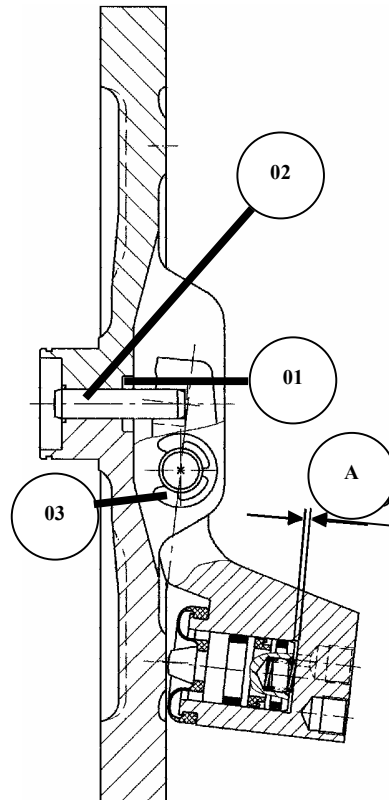

Figure 66
- Put the sealing ring (Item 01) into the bore. (See Figure 66)
- Install the pressure pin (Item 02) into the bore provided. (See Figure 66)
- For this purpose position the feeler of the dial gauge on the brake lever in the specified measuring point range. (See Figure 66)